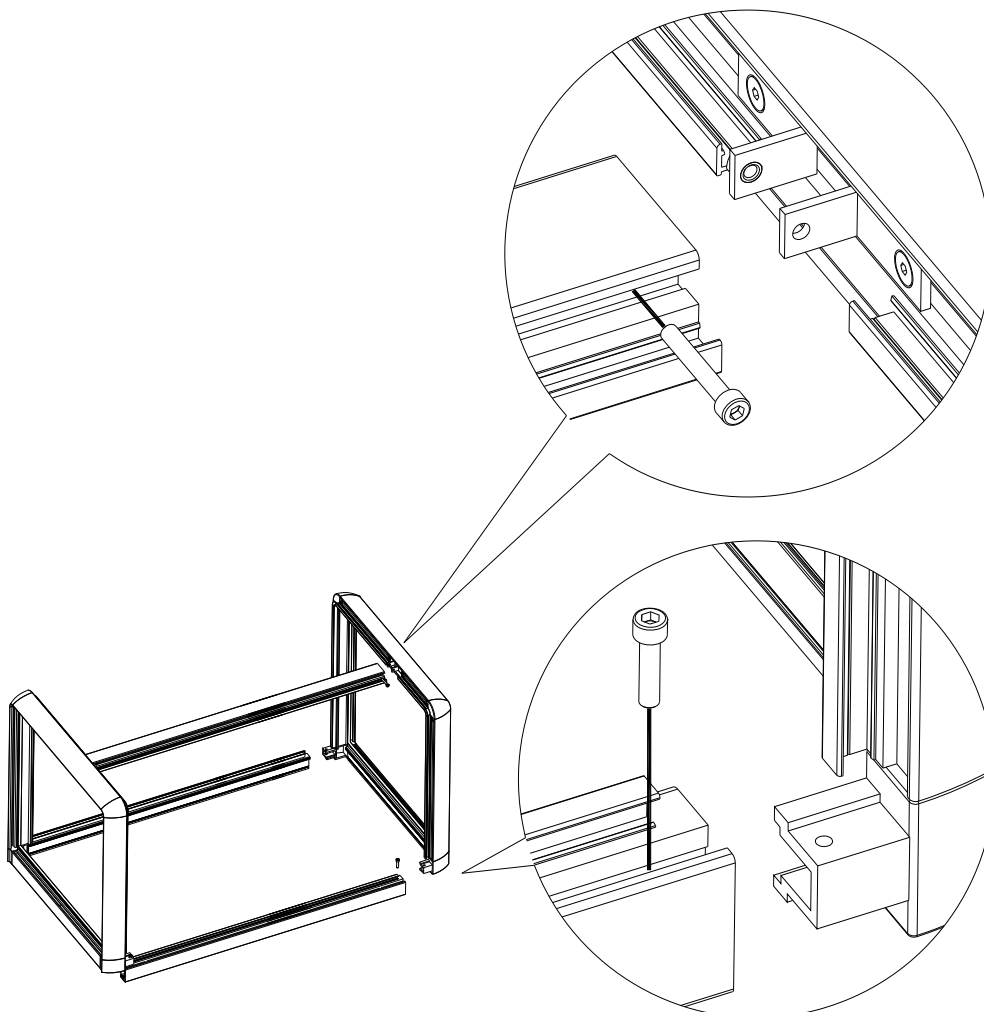

Figure 30: exploded view sound shield Whisper 6 / 10
- 2 The sound shield can be disassembled according to exploded view below (figure 30).